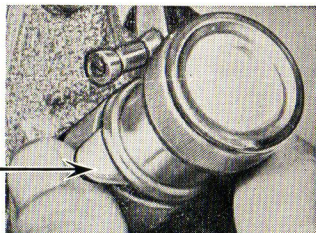

Fig. 1
2. Insert Viewer with Film Punch pointing directly to your left (as shown in Fig. 1.)